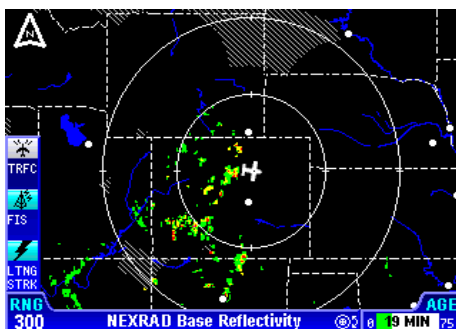

Figure 2-25
1. Press the **WX** Function Select Key until the FIS Graphics Page is displayed. If necessary, turn the Rotary Knob to obtain the NEXRAD Base Reflectivity display as shown in Figure 2-25. **NEXRAD Base Reflectivity (NEXRAD Composite Reflectivity for XM)** will be displayed at the bottom of the display.
Always make note of the age of the data displayed in the bottom right corner (see Figure 2-25). Remember, the older the age the more suspect the accuracy of the data. The colored bar will be green the first 50% of the expiration time period for the displayed data then turn yellow. Also, delays occurring prior to the weather distributor time stamping the data are not reflected in the displayed age. These delays can range from one to seven minutes.